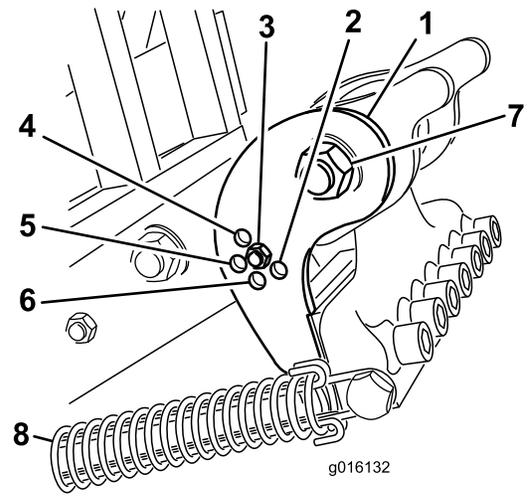

Figure 34
Set the camber bracket (Figure 34) to the correct position based on the length of tines to be used. The head stop is set to one of five predetermined positions by choosing the hole through which the adjustment rod is bolted. These holes are presets only; for instance, by using a 10 inch tine in the 12 inch position you may achieve a smoother finish; depending on the application.
- Release the spring tension to the tine head (Figure 34).
- Remove the nut and bolt in the adjustment holes in the camber bracket (Figure 34).